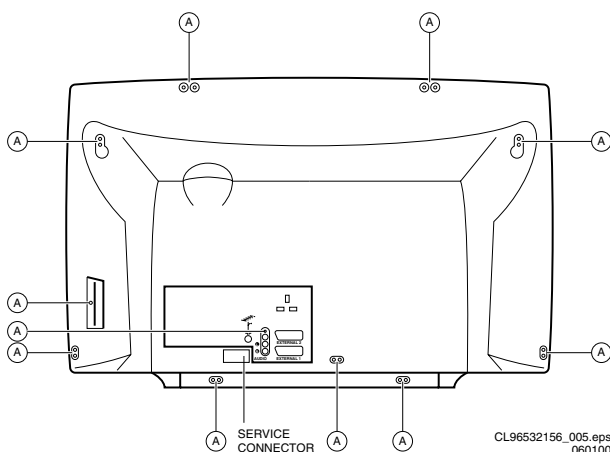

Figure 4-1
1. Remove the 'Service Connector' cover, see Figure 4.1.